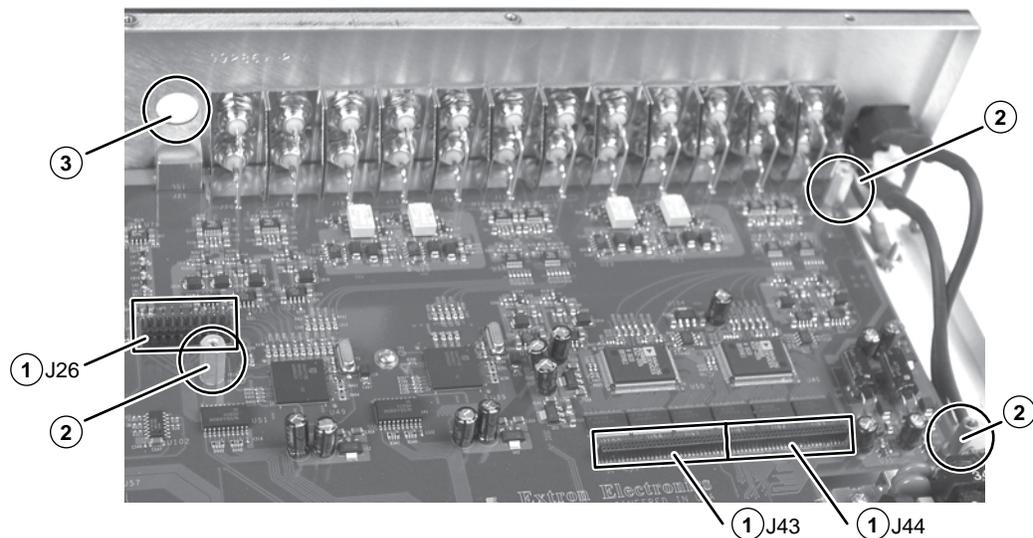

Figure 7-2 — Input board installation location
2. On the main board (figure 7-2), locate connectors J26, J43, and J44 (①); the three standoffs (②); and the rear panel connector port (③).